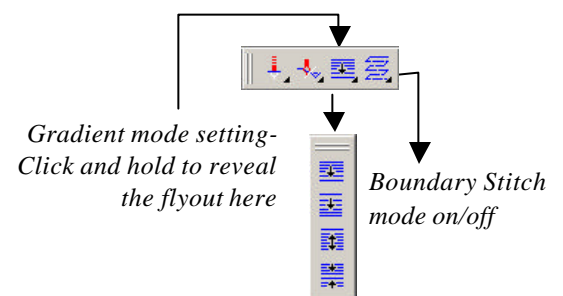

Figure 4
additional modes: (1) light at the top to dense at the bottom; (2) dense in the center, light at the top and bottom edges; (3) light in the center and dense at the top and bottom edges. See Figure 4.
- ?? **Boundary Stitch Setting (on/off):** By default, Boundary Stitch mode is switched off. By turning this on, iPunch causes the edge stitches of the gradient fill to follow the edge of the object, providing a cleaner edge, as shown in the illustration on the lower right. This setting is also available for regular fill stitches, but is not practical because of the short stitches it would otherwise create. On the other hand, it works well for gradient fill stitch. See icon on previous page in Figure 4.